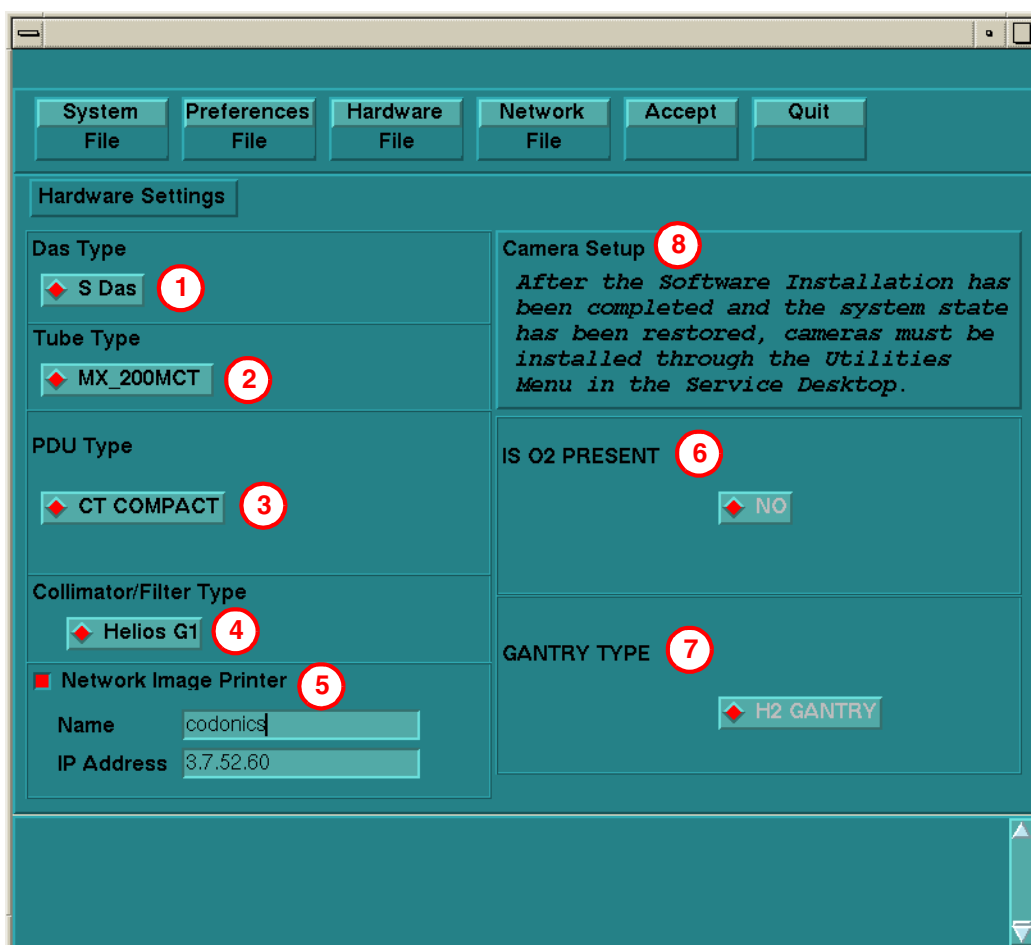

Figure 6-15 Hardware Settings Screen
- 8.) Select the HARDWARE button to display the Hardware Settings Screen (Figure 6-15).